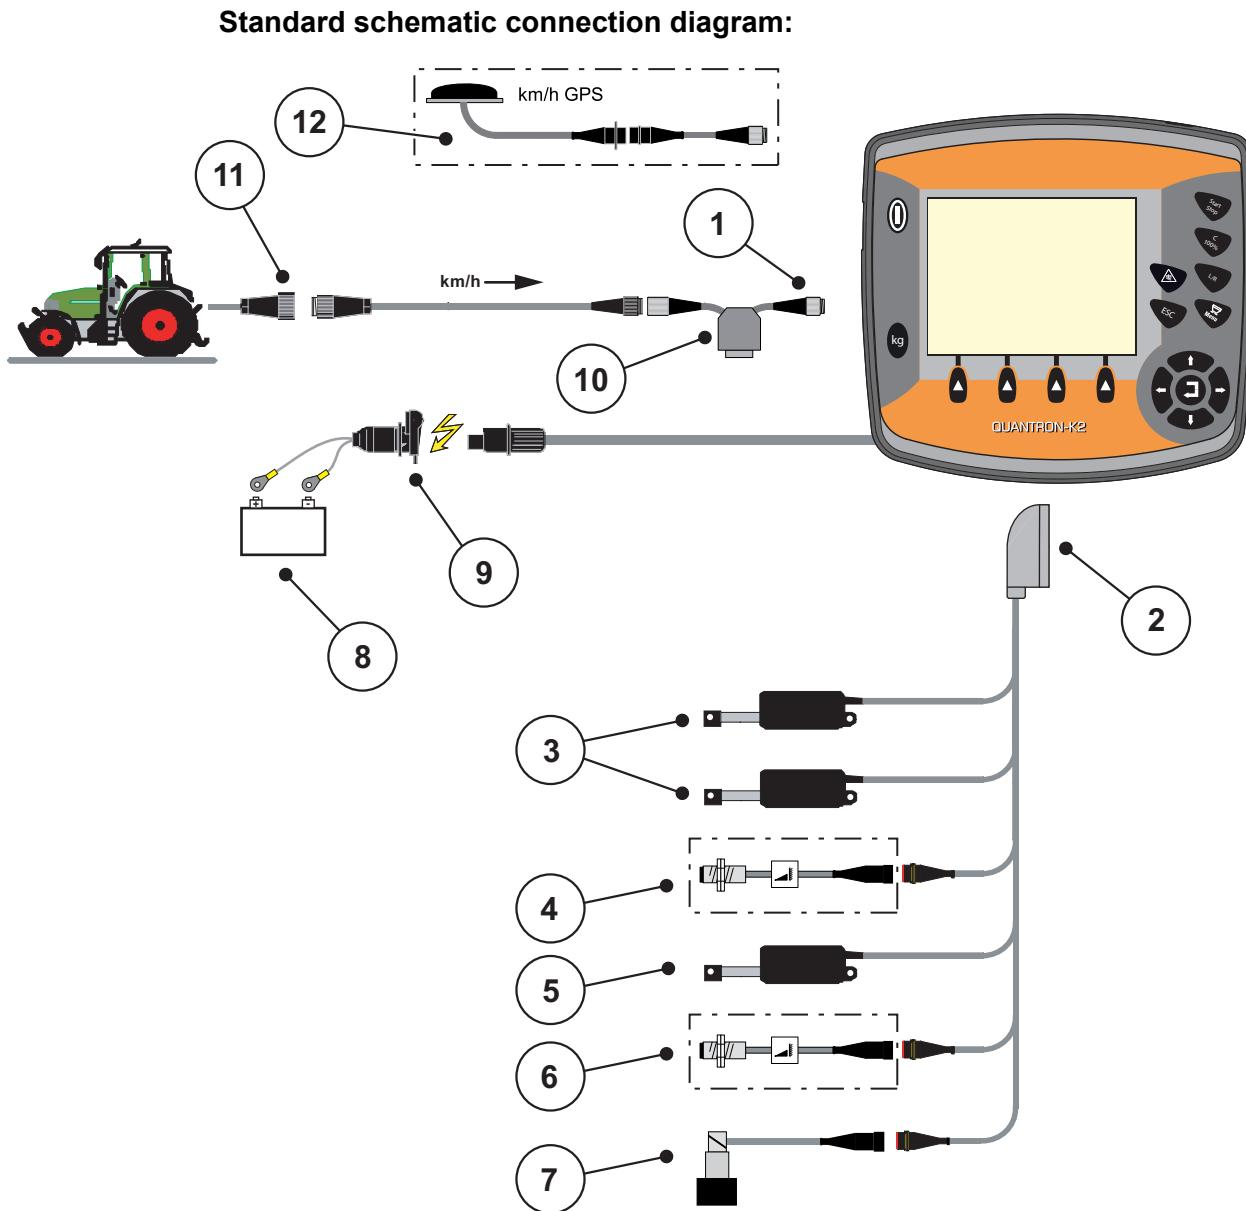
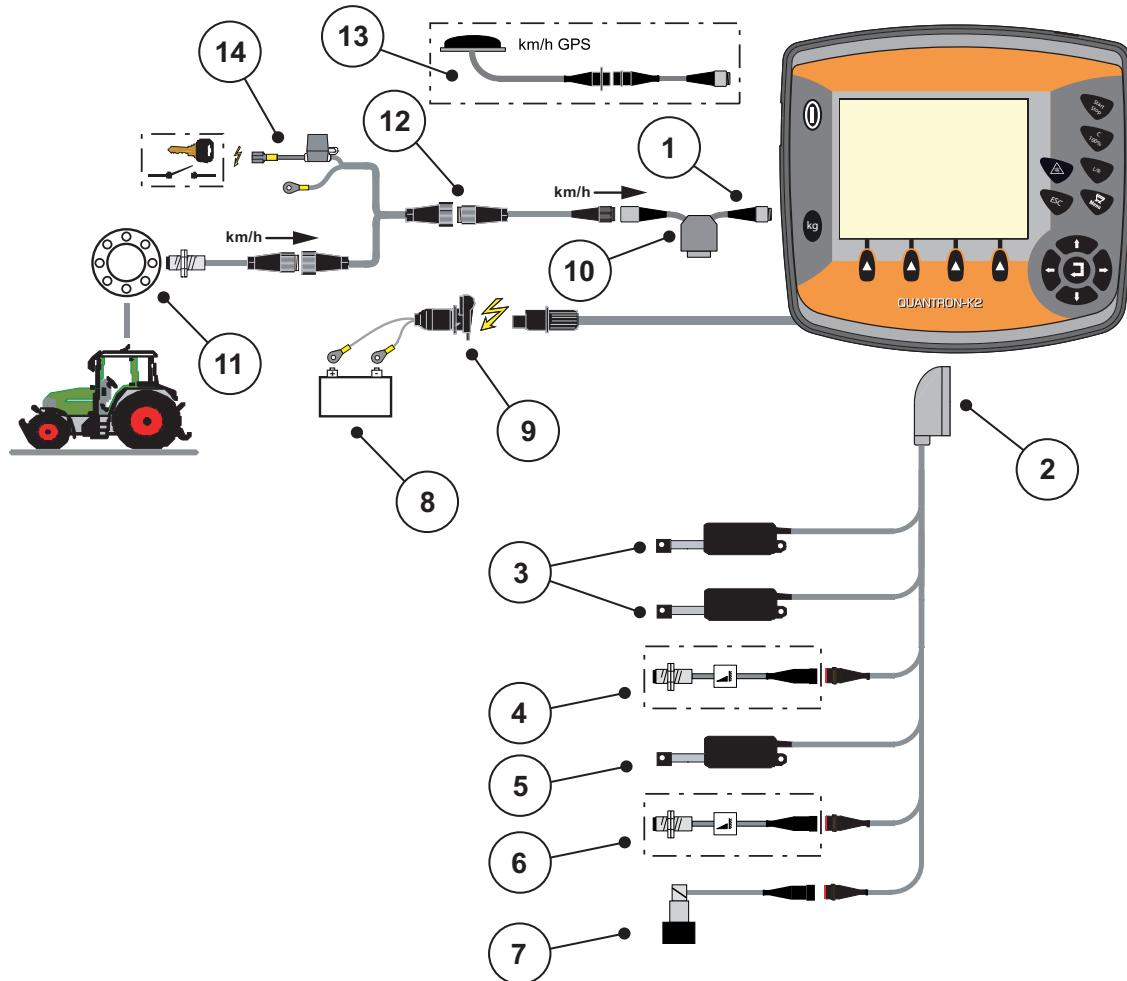

Figure 3.3: Standard schematic connection diagram QUANTRON-K2
Figure 3.5: Schematic connection diagram QUANTRON-K2
- Connect the control unit to the 7-pin socket or to the forward speed sensor (depending on the equipment, see figure 3.3 to figure 3.5).